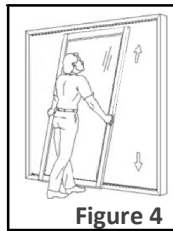

Figure 4
3.1 From the outside of the building, lift the fixed panel into the furthest away/exterior track of the frame header and carefully lower onto the sill (figure 4). The wool pile at the meeting rail should now be facing the inside of the building.